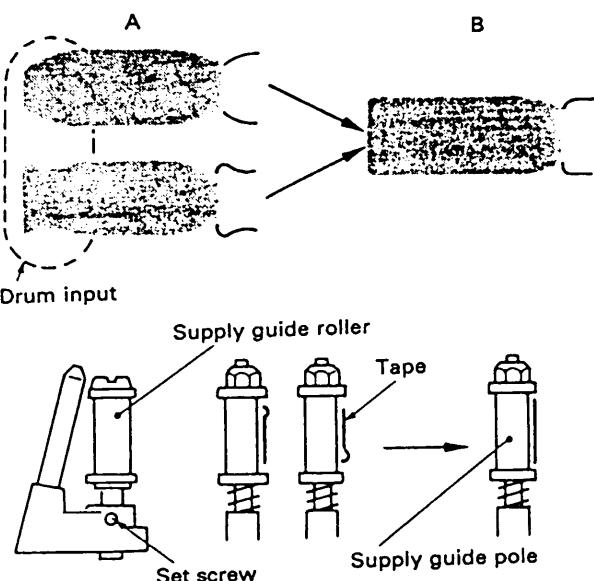

Fig. 7-4 Drum input adjustment
- b) Refer to Fig. 7-4 Examples of incorrect waveform are shown by A. Use a slotted screwdriver to adjust the supply guide roller so that the rising portion (drum input portion) on the waveform becomes flat as shown by B.